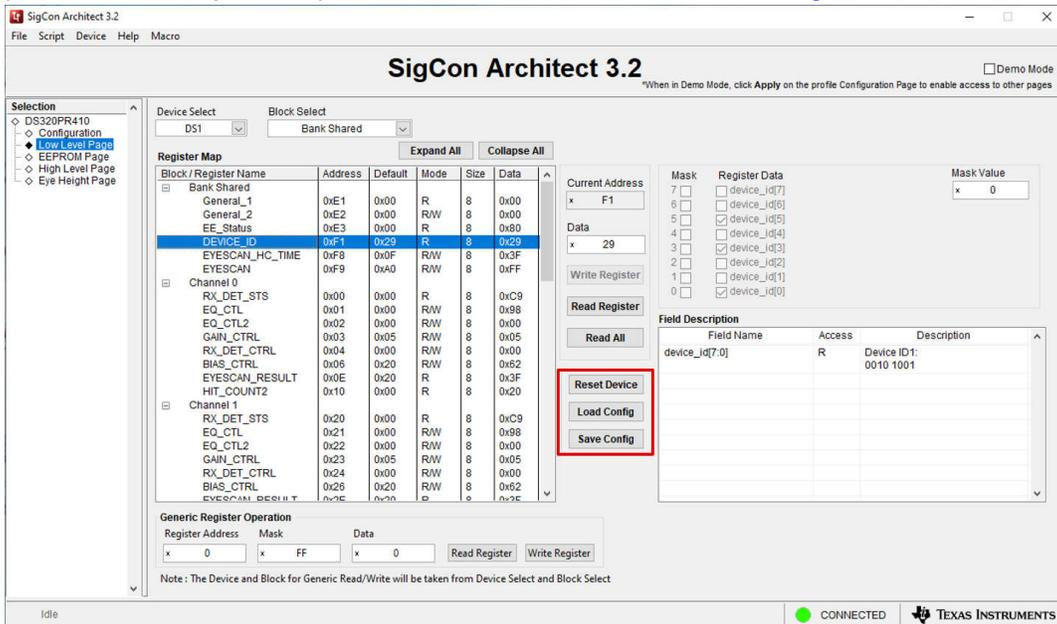

Figure 3-5. Low Level Page: Reset, Load, and Save Device Configuration Buttons
- Use the *Save Config* button to save the current register configuration in a .cfg file and the *Load Config* button to load a device .cfg file. Click the *Reset Device* button to reset every device register to the *Default* register value specified in the *Register Map*. Each of these buttons are outlined in Figure 3-5.